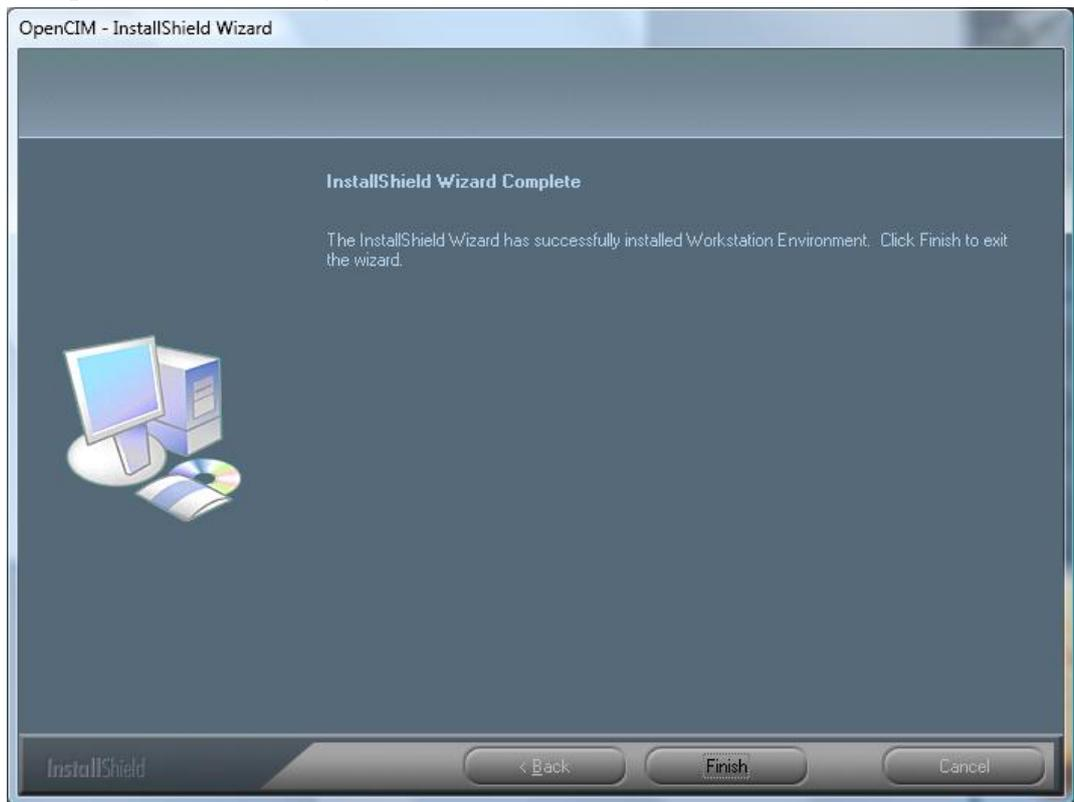

Figure 4-7: Installation Complete Window.
12. The Installation Complete window is displayed when installation has been successfully completed as shown in Figure 4-7.